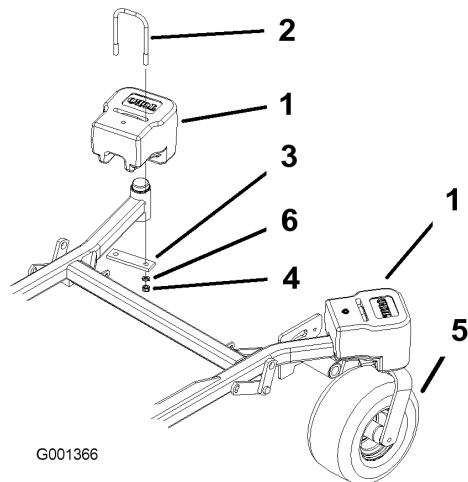

Figure 24
2. Install the plate, nuts (1/2 inch) and lock washer (1/2 inch) under the frame and weight (Figure 24).